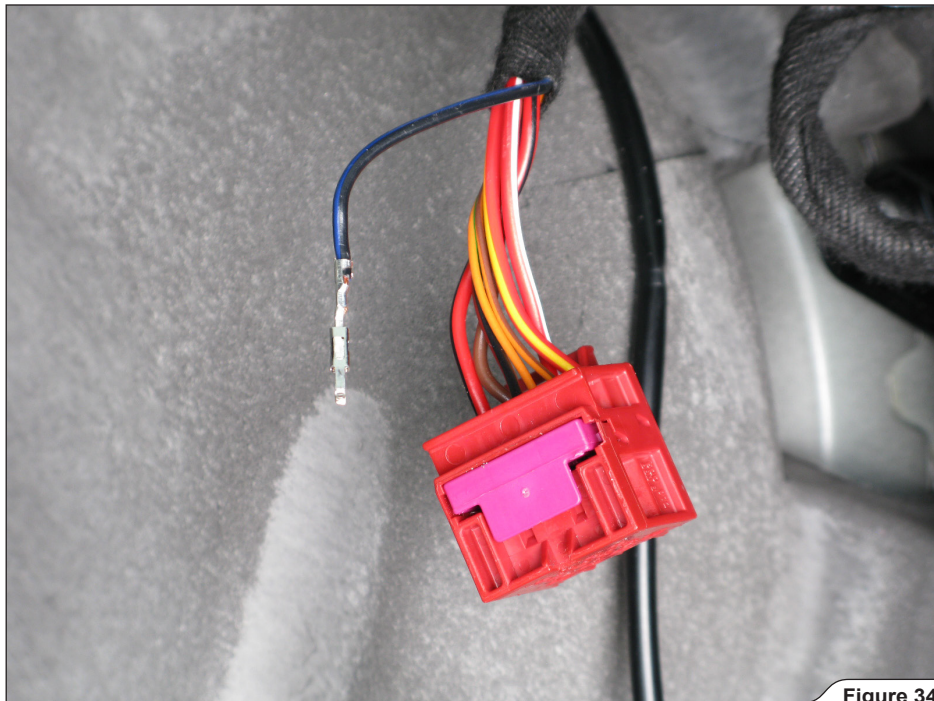

Figure 34
27. Dismantle the connector and carefully remove the stock blue/black wire from the connector (Figure 34).